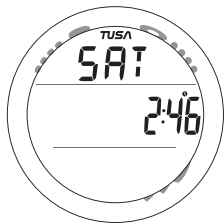

Fig. 55 - DSAT TIME
**Desat Time** information includes (Fig. 55):